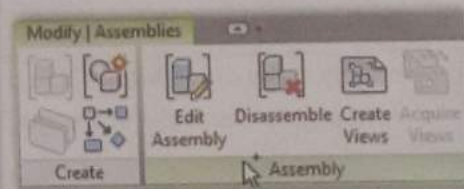

Figure 104: Edit Assembly
4. Click OK. The views are added to the Assemblies category in the Project Browser under the assembly type name (Figure 104).